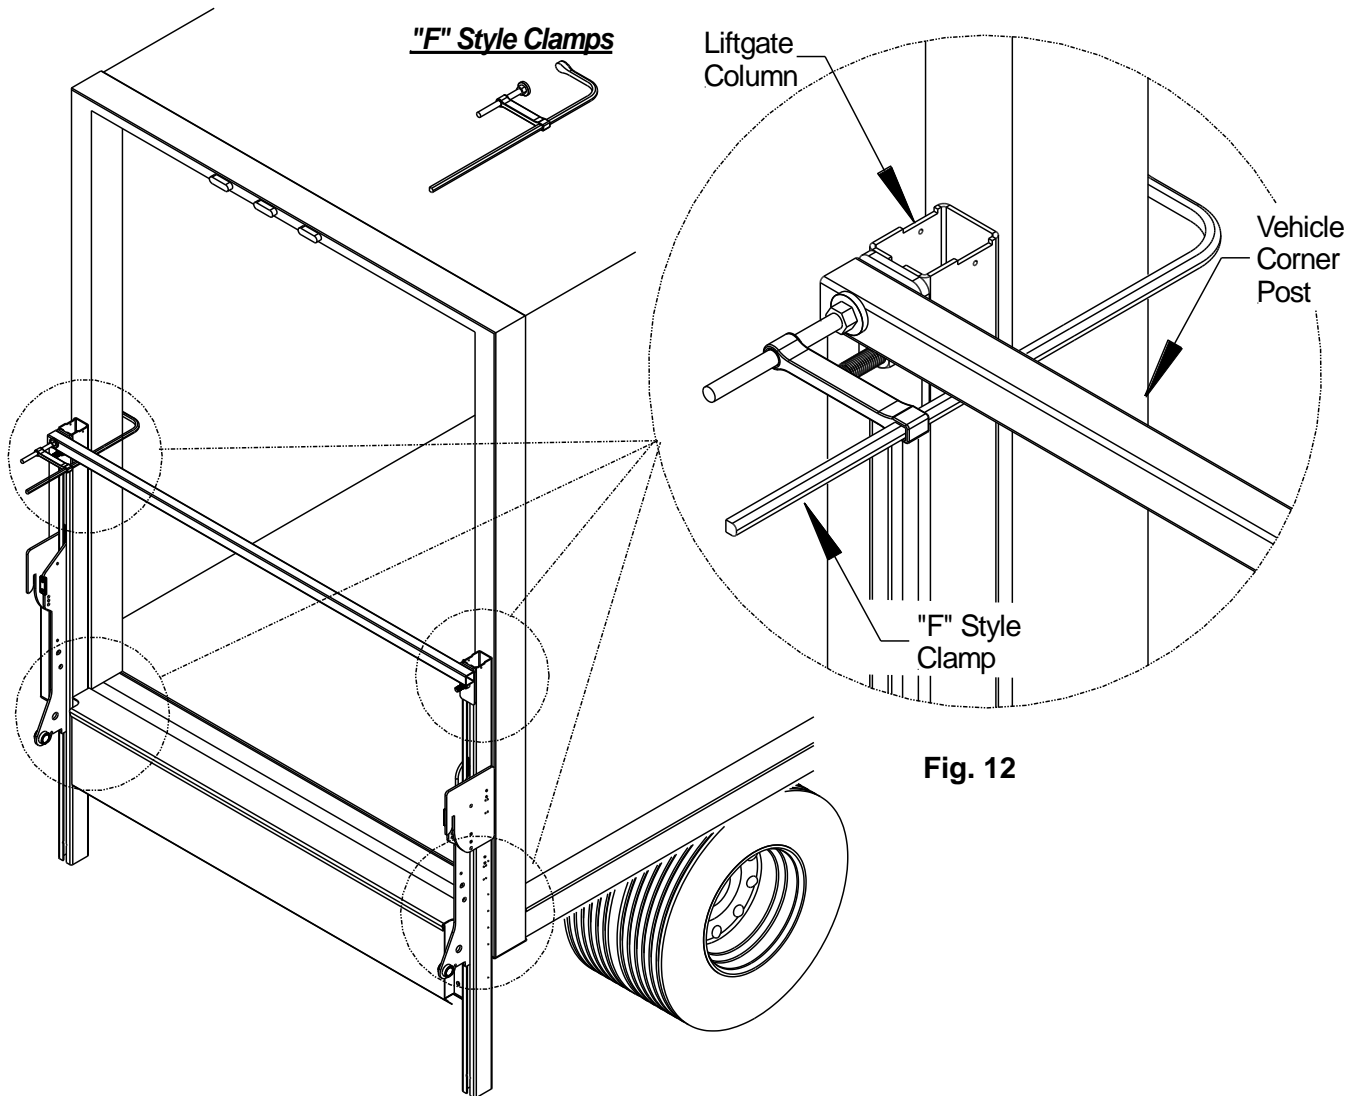

Fig. 12
8. Clamping Liftgate: After centering the liftgate, use four (4) "F" style clamps, two on top and two at bottom, to secure the liftgate flush against the vehicle, **Fig.12**. Confrim all mounting dimensions are correct, double check the floor and traverse is flush with the sill, and the columns are flush to the vehicle.